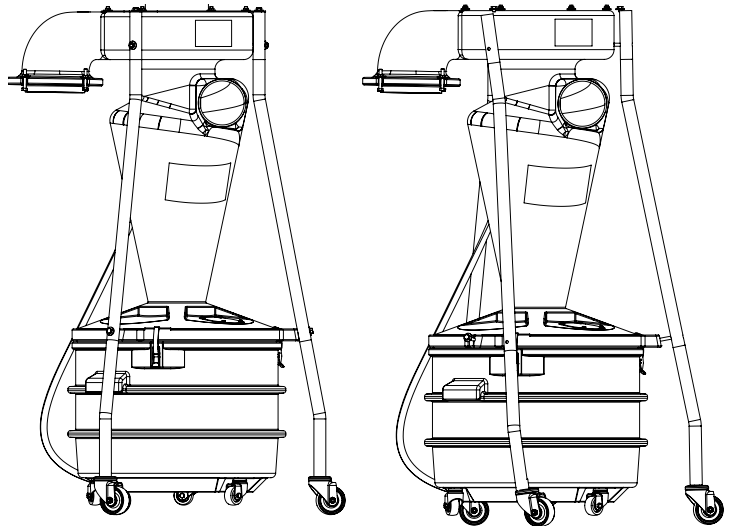

FIG. 5
- 5** Align the legs so that they are square and even with the drum and body. Tighten all of the hardware; this includes the pre-installed parts used on the Drum Latches (C2) and the Drum Window (C6) [FIG. 5]